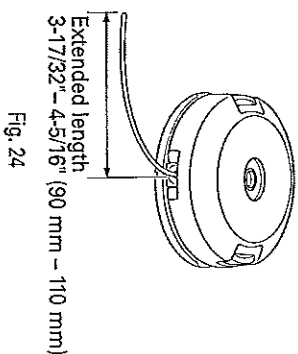

Fig. 24
- (8) Pull the line taut so there is no slack, and then cut the line to an extended length of 3-17/32" - 4-5/16" (90 mm - 110 mm) with scissors. (Fig. 24)